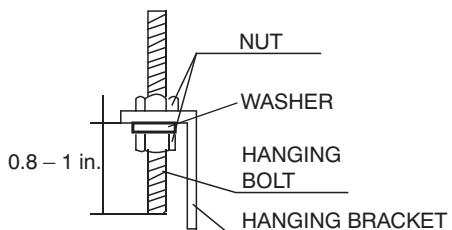

Fig. 7 —Mounting the Hanging Bracket
2. Secure the hanging brackets in position with locknuts and washers on both sides. Ensure the threaded rod does not protrude more than 1 in. below the mounting hole on the hanging bracket as shown in Fig. 7.